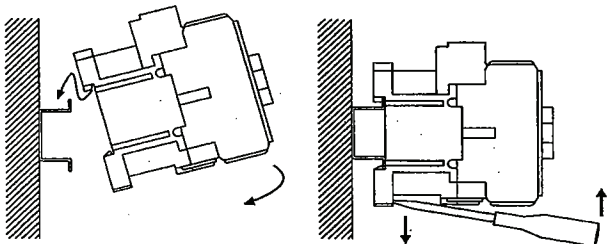

Fig. 3
- The rail mounting type can be attached on a standard 35mm IEC60715 mounting rail. Fuji type TH35-15AL mounting rail is recommended. Mounting of the rail on the panel (Fig.2) Attachment and removal (Fig.3)